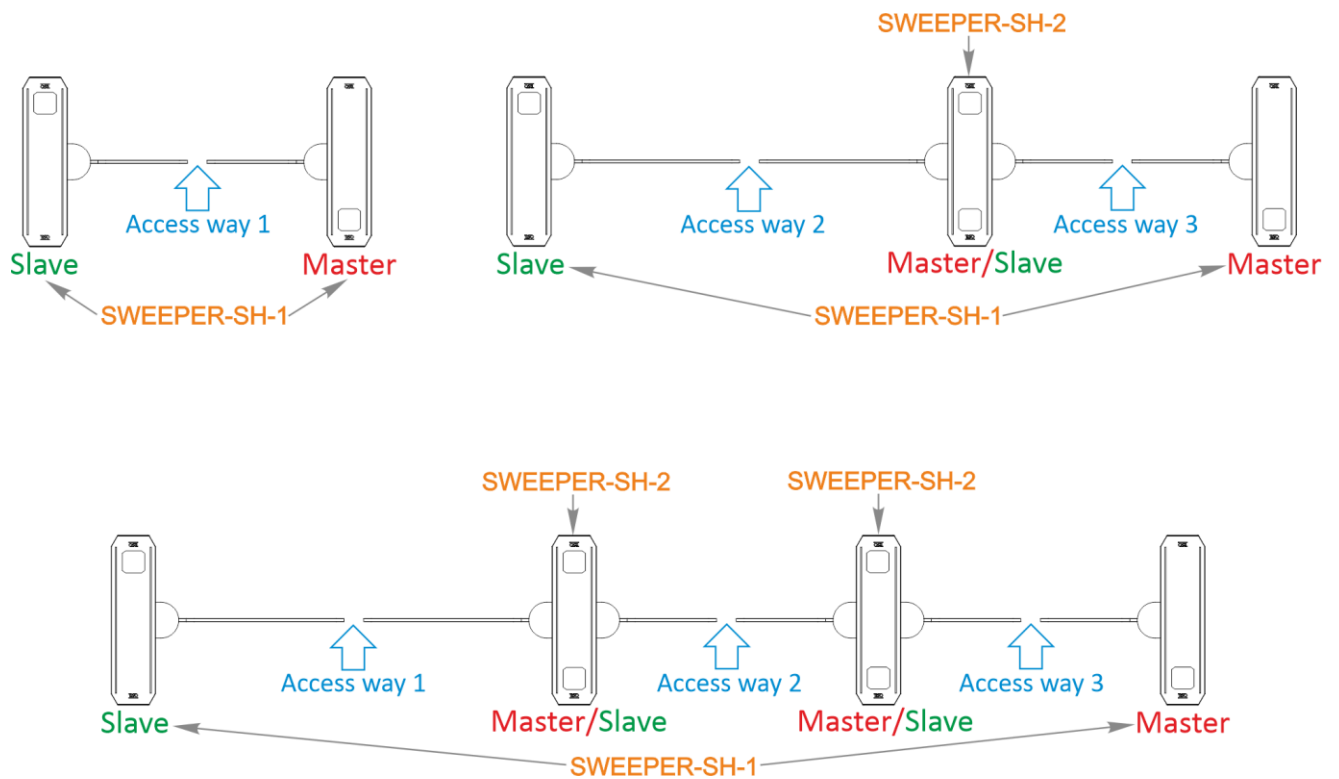

Fig. 14 – The "SWEEPER-SH" turnstile access way arrangement options
- Cables between cabinets (*Figure 14*);